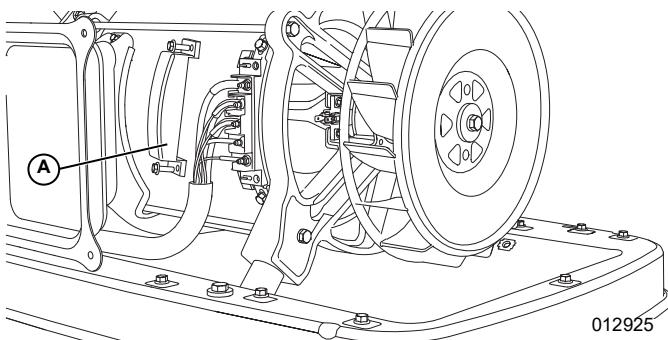

Figure 2-15. Stator Terminal Block (STB)
4. See **Figure 2-15**. Remove the stator terminal block cover (A) to expose all wires/studs (33/22, 11, 44, 2, and 6).